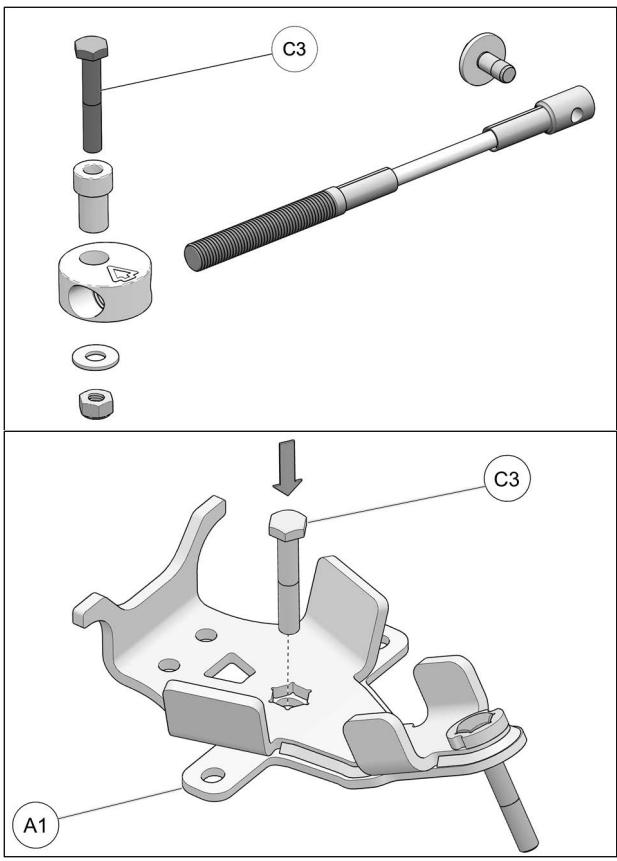

Fig. 14
5. Retrieve the M10x60mm bolt (C3) from the Steering Limiter assembly and insert it in the front anchor bracket (A1) as shown in Fig. 14